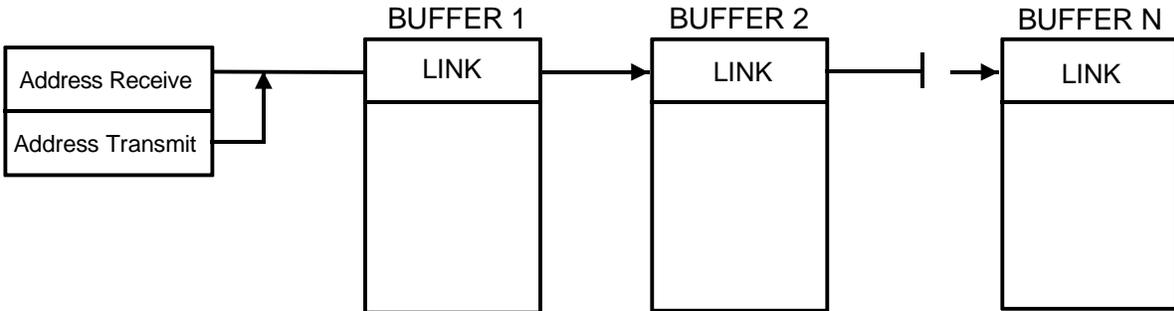

Figure 3-7. DTI-PC SC/DC Message Block
- Bits 15-0 The message block contains the pointers where the host stores data being transmitted by the BC (Figure 3-7).
The DTI-PC allows for one message block, consisting of two words, the address of the last buffer to receive data and the address of the last buffer to transmit data, in free memory, followed by the buffers (Figure 3-7).